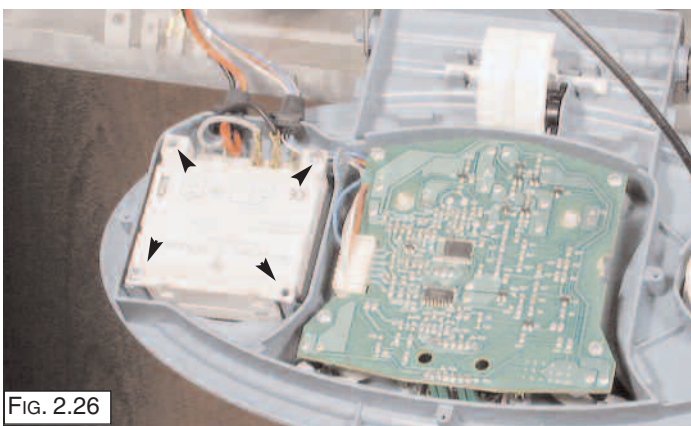

FIG. 2.26
3. Unplug the electrical connection from the PCB and unscrew the four screws (Fig. 2.26);